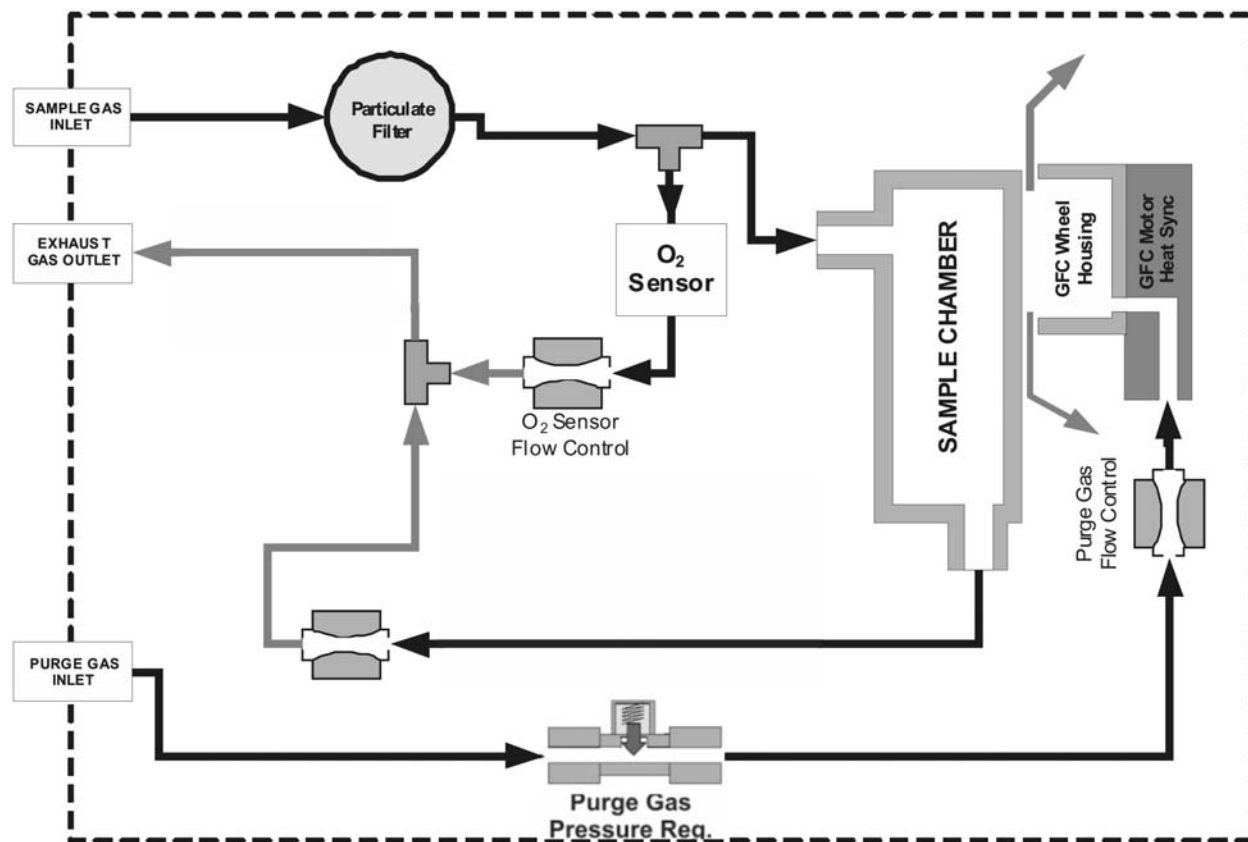

Figure 5-5: GFC 7000T – Internal Pneumatics with O₂ Sensor Option 65
- Pneumatically, the O₂ sensor is connected to the bypass manifold and draws a flow of about 120 cm³/min in addition to the normal sample flow rate and is separately controlled with its own critical flow orifice. Figure 5-5 shows the internal pneumatics of the GFC 7000T with the O₂ Sensor installed.